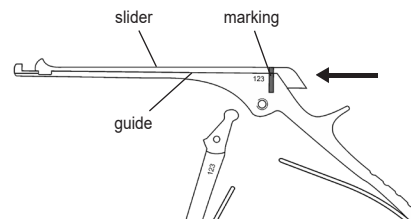

Fig. 5
- Place the slider in the guide of the bone nibbling rongeur and push it forward to the marking (fig. 5).